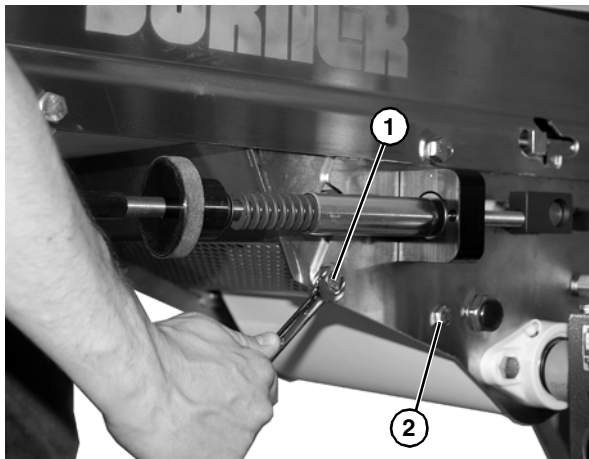

Figure 37
7. Remove screw (**Figure 37, item 1**) from each side of center drive from idler guard assembly.
8. Loosen screw (**Figure 37, item 2**) from each side.